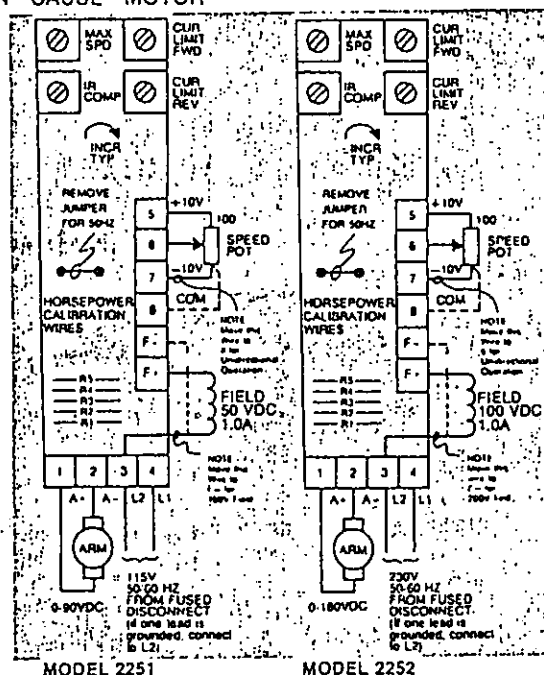

FIGURE 2. CONNECTION DIAGRAM
- Remove the applicable calibration shunt wire(s) with a wire cutter, as shown in Table 4 and Figure 2.
- For 50 Hertz operation, remove the 60 Hz jumper wire from the circuit board with a wire cutter. (See Figure 2.)
- Connect the motor and single-phase power to the controller as shown in Figure 2. If unidirectional operation is desired, rewire the MOTOR SPEED pot as shown. Then, remove the pot's bidirectional dial plate, thereby revealing a unidirectional dial plate.
Too many calibration shunt wires removed	See Table 4 and Figure 2.